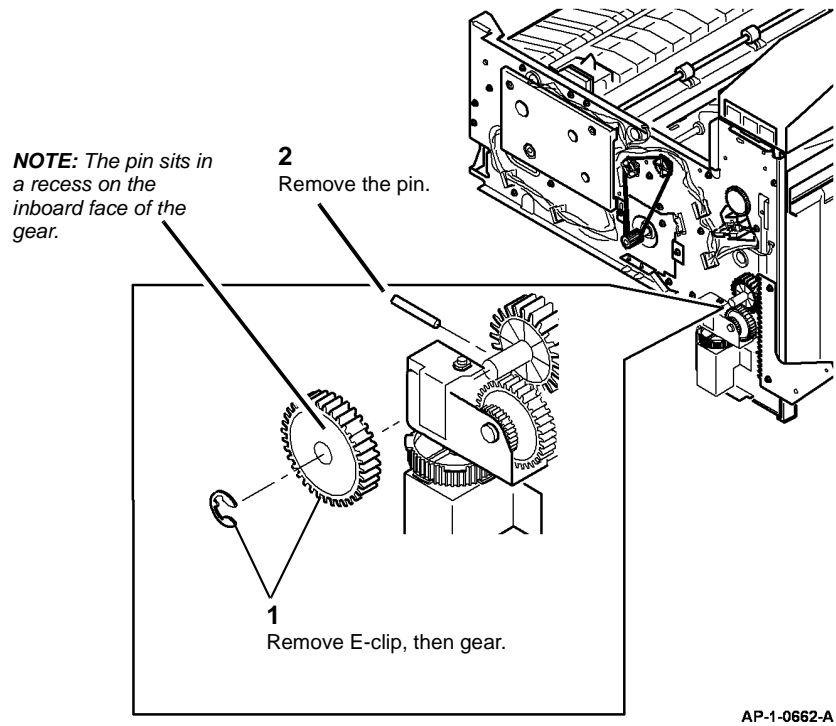

Figure 2 Preparation
6. Prepare to remove the Stacker Tray Motor Assembly, Figure 2.